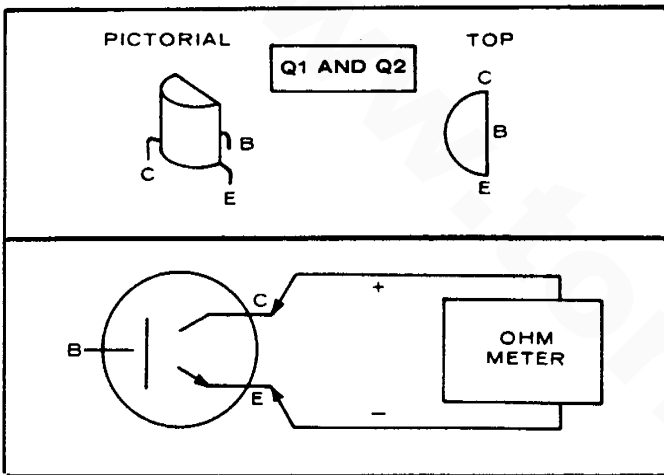
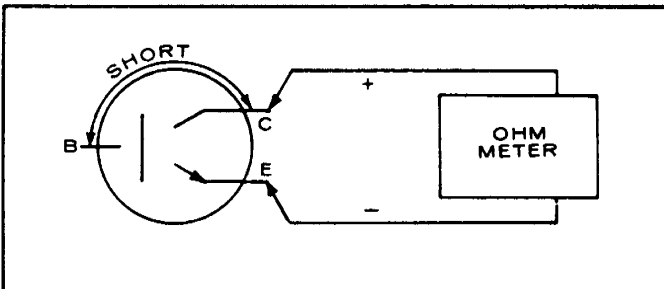
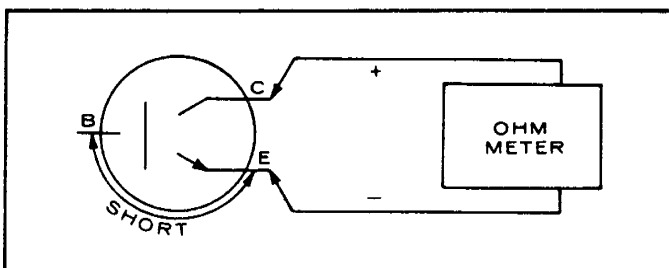

FIGURE 12.
FIGURE 13.
FIGURE 14.
1. Place ohmmeter leads between E and C as shown in Figure 12. The resistance should be high.
2. Leave ohmmeter connected as in Figure 12, but short B and C as shown in Figure 13. The resistance should become less than it was in step 1.
3. Leave ohmmeter connected as in Figure 12, but now short B and E as shown in Figure 14. The resistance should be higher than in step 1.